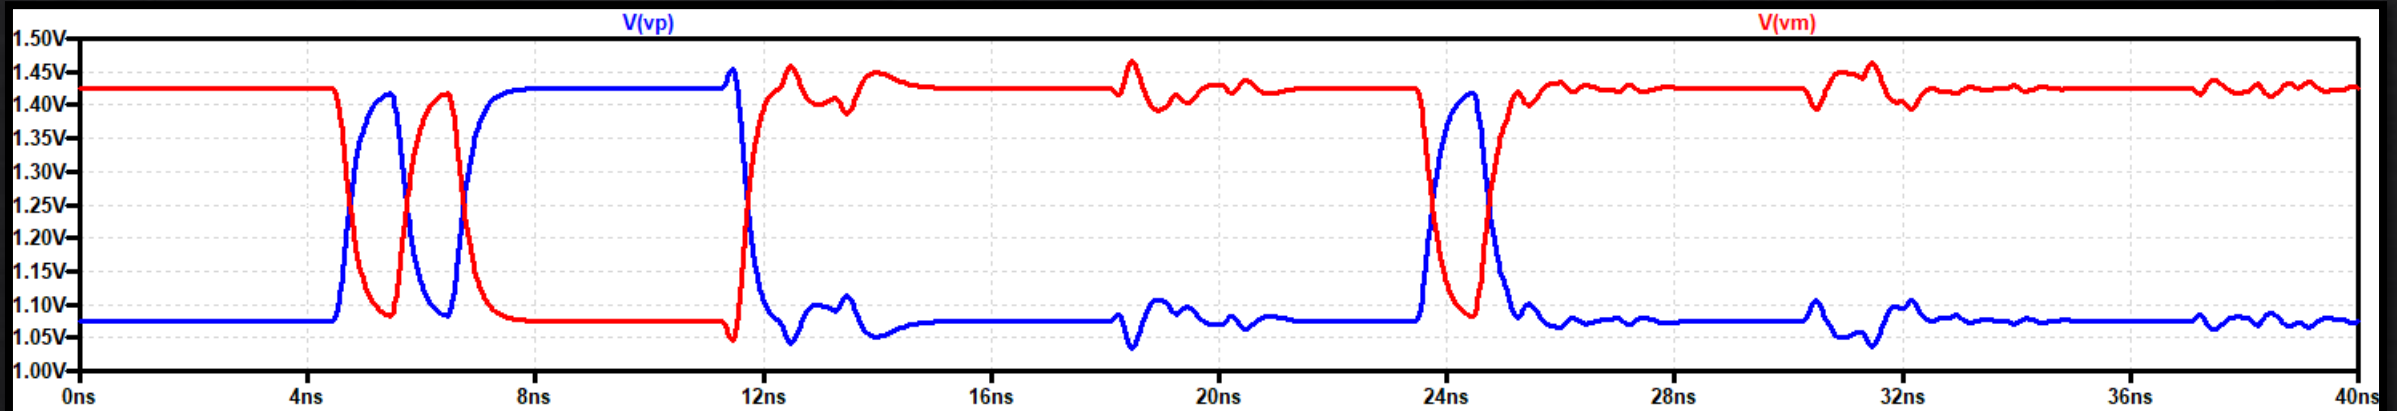

Figure 12: Noisy inputs to comparator (outputs of modeled parasitic PCB trace).
- Attenuation is apparent from Figure 12